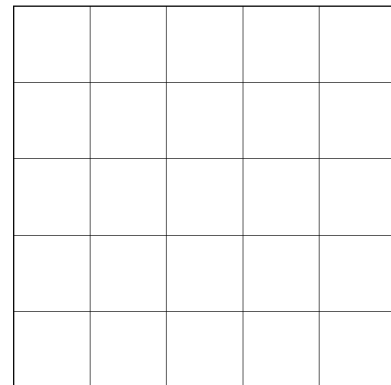

Fig. 15.2.5:
- Draw the vector diagram for the voltages  $U$ ,  $U_R$ ,  $U_C$  in Fig. 15.2.5.